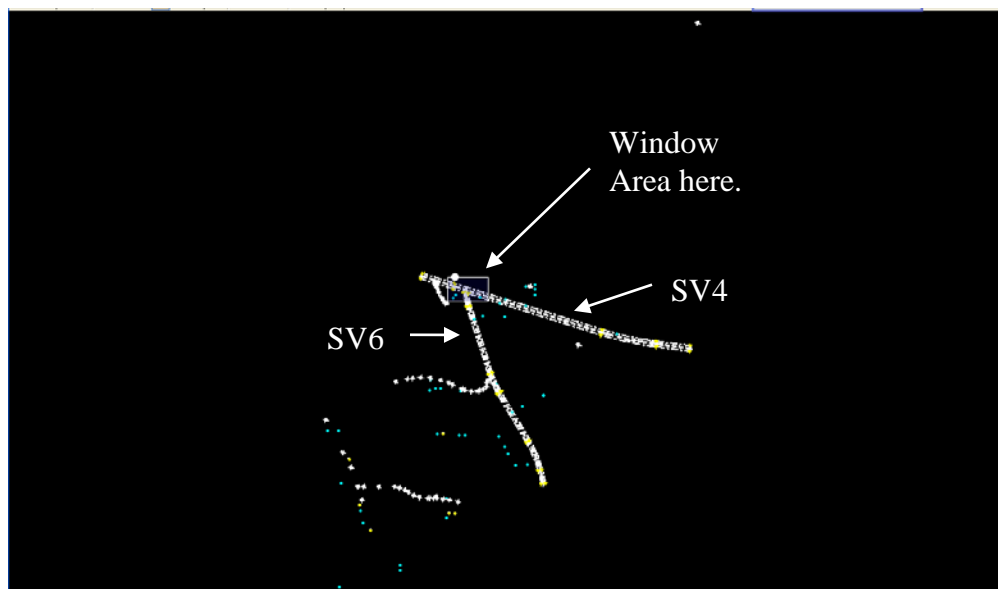

**Figure L13-6** MicroStation Window
- Verify that the MicroStation view window matches that shown in *Figure L13-6*.